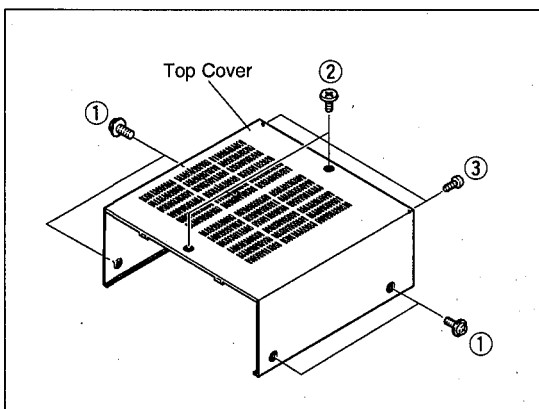

Fig. 1
a. Remove 8 screws (①), 2 screws (②) and 2 screws (③) in Fig. 1.
a. Remove 13 screws (④) in Fig. 1.
b. Remove 4 screws (⑤) in Fig. 1.